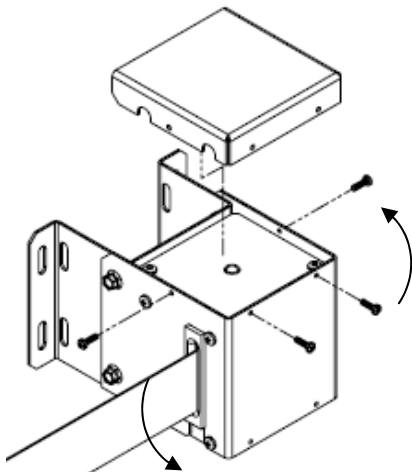
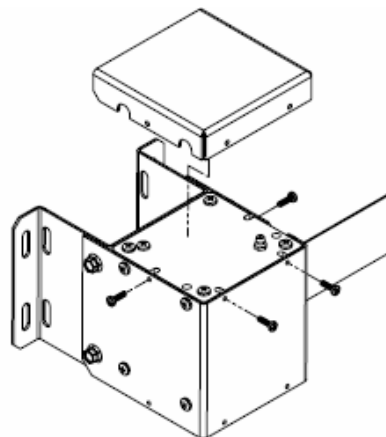

Figure 1. Remove Recoil Housing cover and rotate 180°.
Figure 2. Re-attach cover on what was the bottom of the Recoil Housing.
1. Remove the top cover of the ST5017 Recoil Housing (See Figure 1), rotate the ST5017 Recoil Housing 180° and re-attach the cover on the other side of the assembly (See Figure 2.)
Insert sensor wire into pluggable terminal block as shown below in **Figure 1**. Plug into DOOR header (J2) on control board.
Insert sensor wire into pluggable terminal block as shown below in Figure 2. Plug into OPT 2 header (J3) on control board.